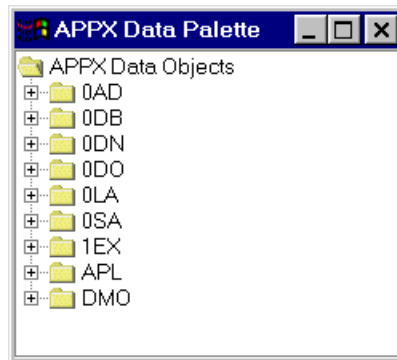

Figure E3.13 – APPX Data Palette - Applications
- You are presented with a **Data Palette** displaying a list of APPX applications from which to select (*Figure E3.13*). You can resize and/or move the Data Palette window at any time to make viewing the file and field lists easier.